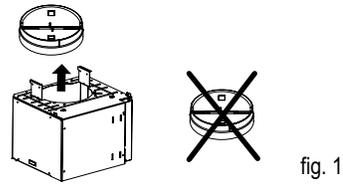

fig. 1
- Adjust the anti-lifting screw (D/fig. 1).
- Using the two screws (fig. 1), attach the metal chimney bracket against the wall, flush with the ceiling for support.
- Remove the retention valve (fig. 1).